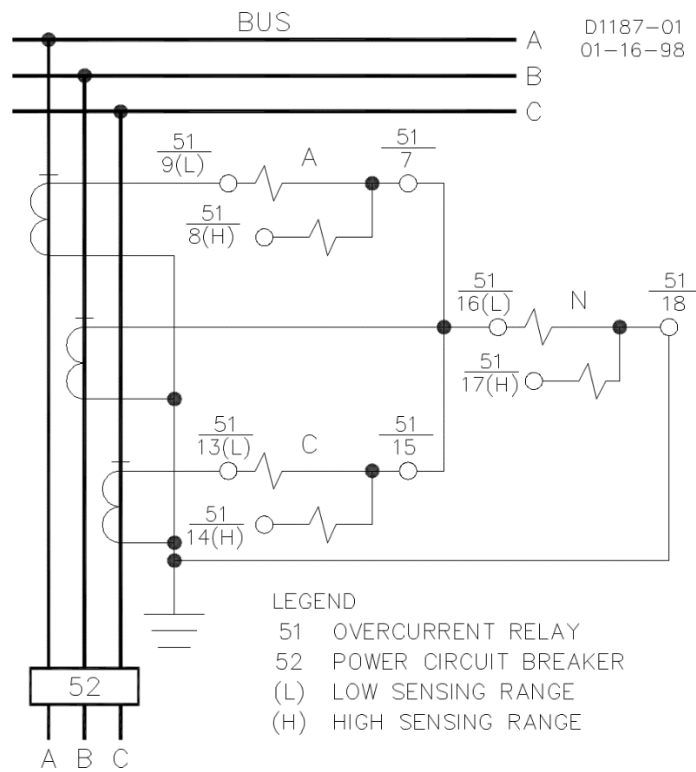

Figure 4-15. Typical Sensing External Connections, Sensing Input Type I or X
- Figure 4-15: Typical Sensing External Connections, Sensing Input Type I or X